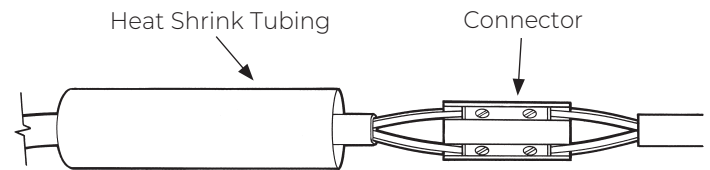

Figure 1
3. Slide the enclosed heat shrink tube (8-inches long) over one end of the wire. See Figure 1.